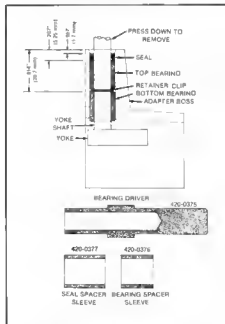

FIGURE 3-48 BEARING INSTALLATION AND TOOL PACKAGE (420-0374)
1. Referring to Figure 3-48, press shaft and yoke assembly towards center of adapter until shaft and bottom bearing slips out bottom and